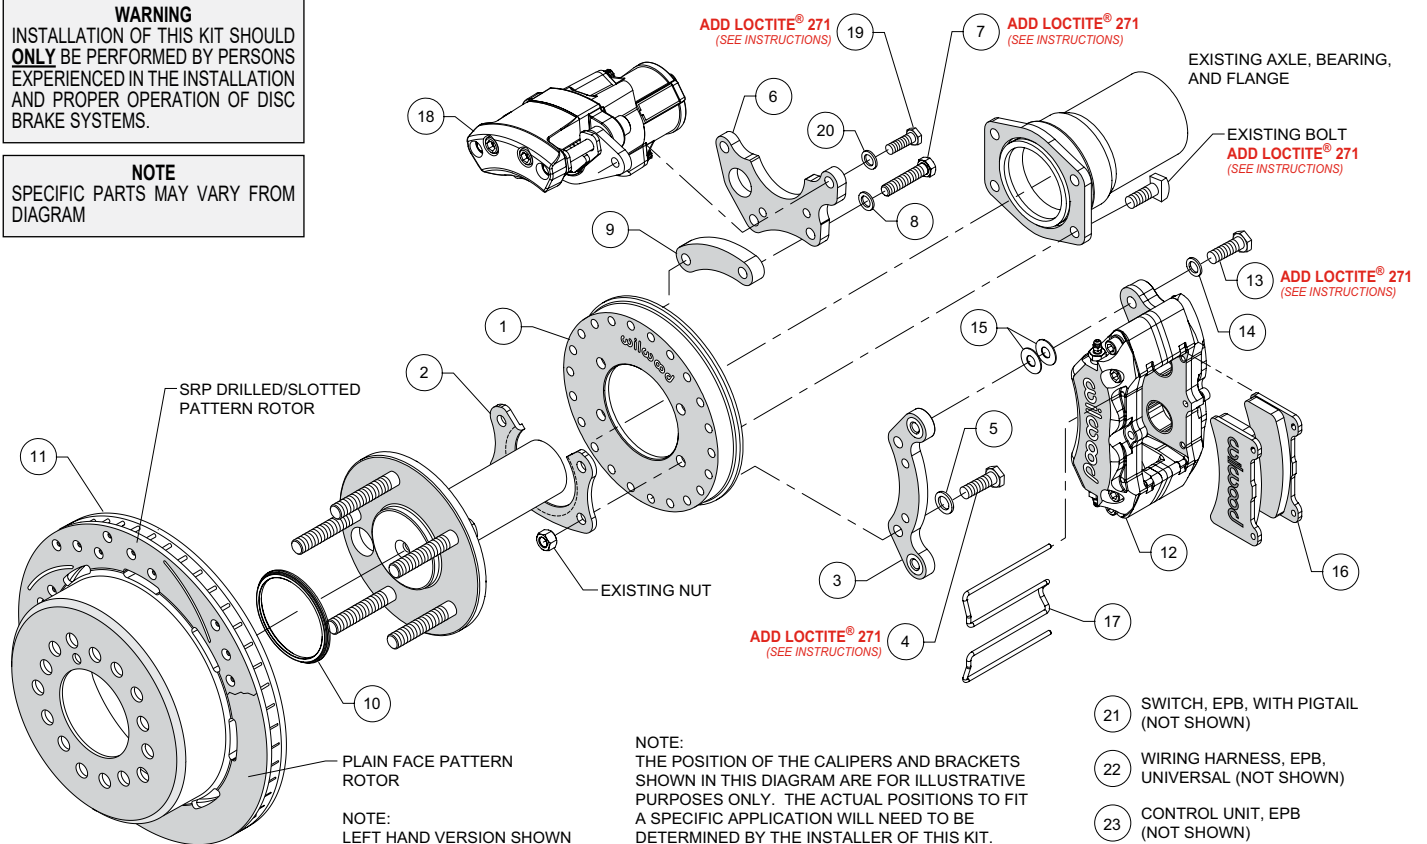
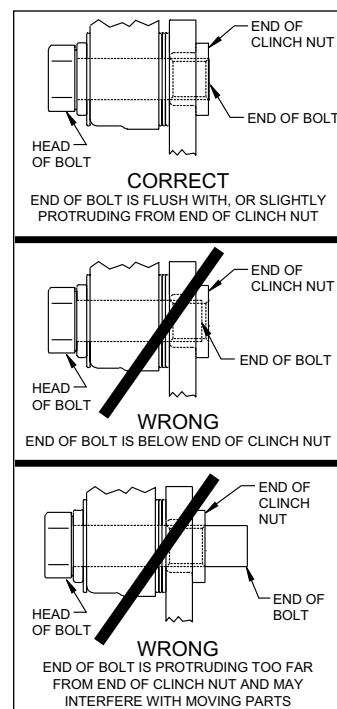

Figure 1. Typical Installation Configuration
Figure 5. Clinch Nut Engagement Diagram
NOTE: Numbers in parenthesis refer to the parts list and Figure 1 on the preceding pages.
CAUTION: All mounting bolts must fully engage clinch nuts. Be sure to check that all bolts are either flush or protruding through flanged side of clinch nut after shimming, Figure 5.
- Orient the backing plate (1) as shown in Figure 1 and Photo 1, and slide it onto the axle housing flange. Ensure the backing plate fits flush against the axle housing flange. Reinstall the axle into the axle housing.
- Install the bearing retainer (2) with the opening pointing upward and the lip facing inward (toward the bearing), as shown in Figures 1 and 4, and Photo 2. Secure retainer and backing plate to the axle housing flange using the Original Equipment Manufacturer (OEM) bolts and nuts, Figure 1 and Photo 3. Apply red *Loctite*® 271 to the OEM bolt threads and torque to OEM specifications.
- Start by determining the best location for the service caliper (12). This caliper is usually mounted in the 3:00 or 9:00 o'clock position, but may be rotated up or down approximately 45 degrees and still allow for proper bleeding, Photo 4. Orient the service caliper bracket (3) as shown in Figure 1 and Photo 5, and install to the backing plate (1) in the desired location using bolts (4) and washers (5). Temporarily tighten bolts. Next, mount the service caliper to the bracket using bolts (13) and washers (14). Temporarily tighten bolts. Check that the caliper (including inlet fitting and hose) has sufficient clearance to all surrounding components through the full suspension travel. Relocate the caliper/bracket on the backing plate as needed to ensure proper clearance is achieved.
- Determine the best location for the EPB caliper (18). **NOTE:** *The EPB caliper motor extends farther inboard than the service caliper and therefore needs additional consideration when determining a mounting location with sufficient clearance.* In the example application shown in Photo 6, the EPB caliper has sufficient inboard clearance to the leaf spring. However, if the EPB caliper were mounted closer to the 12:00 o'clock position, the inner body of the vehicle would hit the caliper during full compression of the suspension.
- Orient the EPB caliper bracket (6) as shown in Figure 1 and Photo 7, and install to the backing plate (1) in the desired location using bolts (7), washers (8), and spacer (9). Temporarily tighten bolts. **NOTE:** The EPB bracket is reversible. In one direction the bracket will position the EPB caliper closer to the service caliper, and vice versa if reversing the bracket. Next, mount the EPB caliper (18) to the bracket using bolts (19) and washers (20). Temporarily tighten bolts. **NOTE:** EPB calipers are Left and Right handed, however they can be used on either side of the vehicle to best suit your specific application. Check that the EPB caliper (including wiring harness connector) has sufficient clearance to all surrounding components through the full suspension travel. Relocate the EPB caliper/bracket on the backing plate as needed to ensure proper clearance is achieved.
- Once the caliper positions have been determined, remove both the service (12) and EPB (18) calipers, leaving both brackets in place on the backing plate. For both brackets, remove the bolts one at a time, apply red *Loctite*® 271 to the threads, and torque to 35 ft-lb.
- Slide the rotor registration adapter (10) onto the register on the axle flange with the smaller O.D. facing toward the rotor/hat (11), Photo 8. Align the correct hole pattern in the rotor/hat with the stud pattern on the axle flange and slide into place, Figure 1. **NOTE:** The rotor/hat must fit flush against the axle flange or excessive rotor run out may result. Install three lug nuts (finger tight) to keep the rotor/hat assembly in place while continuing with the installation. **NOTE:** Some OEM and after market axles come with stud sizes larger than 0.50" diameter. Verify stud size and have a qualified machine shop drill the bolt circle of the hat/rotor to the correct stud size, if necessary.
- NOTE:** Please reference the caution statement at the beginning of the assembly instructions. Remount the service caliper (12) onto the caliper mounting bracket (3) using bolts (13) and washers (14), as shown in Figure 1. Initially place two .035" thick shims (15) on each bolt between the caliper and the bracket, Photo 9. Temporarily tighten the mounting bolts and view the rotor (11) through the top opening of the caliper. The rotor should be centered in the caliper, Photo 10. If not, adjust by adding or subtracting shims (15) between the bracket (3) and the caliper (12). Always use the same amount of shims on each of the two mounting bolts. **NOTE:** The end of each bolt must be flush with or slightly protruding from the head of the clinch nut, as shown in Figure 5. If necessary place spare shims (15) between washer (14) and caliper mounting ear to achieve the proper clinch nut engagement. Once the caliper alignment and clinch nut engagement are correct, remove the bolts one at a time, apply red *Loctite*® 271 to bolt threads, and torque to 40 ft-lb.
- Install the disc brake pads (16) into the service caliper (12), with the friction material facing the rotor (11), Photo 11. Secure the pads in place using pad clip retainer (17), Photo 12.
- Mount the EPB caliper (18) onto the caliper mounting bracket (6) using bolts (19) and washers (20), Figure 1. Apply red *Loctite*® 271 to bolt threads, and torque to 30 ft-lb.
- NOTE:** *The service caliper (12) in this brake kit utilizes a 1/8-27 NPT pipe thread inlet. OEM rubber brake hoses generally cannot be adapted to Wilwood calipers. The preferred method is to use steel adapter fittings at the caliper, either straight, 45 or 90 degree (use PTFE tape on pipe threads of adapter fitting for proper sealing to caliper) and enough steel braided line to allow for full suspension travel. Carefully route hoses to prevent contact with moving suspension, brake or wheel components. NOTE: Wilwood hose kits are designed for use in many different vehicle applications and it is the installer's responsibility to properly route and ensure adequate clearance and retention for brake hose components. Wilwood offers universal brake flex line hose kits, domestic (3/8-24 IF) chassis fittings, order:*